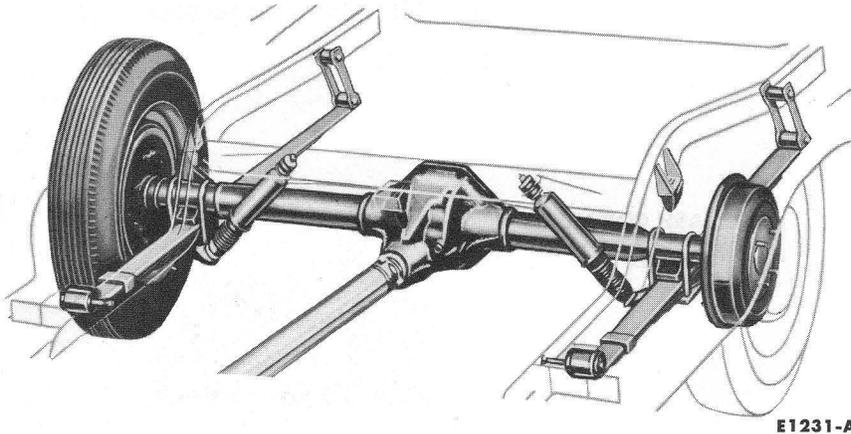

FIG. 20—Rear Axle Installation
4. Disconnect the shock absorbers at the axle housing (Fig. 20).